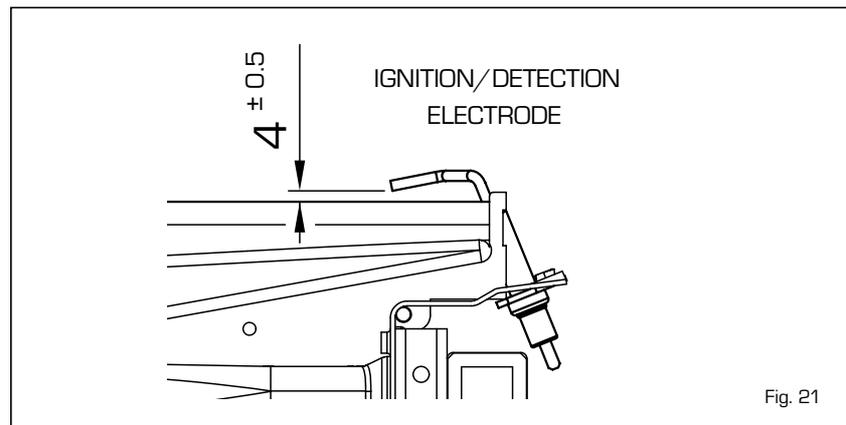

Fig. 21
- Re-assemble in reverse order. Check the electrode gaps (fig. 21) and test for gas soundness.